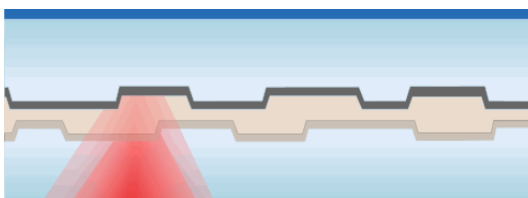

Figure 3 DVD-9 Disc
**DVD-9** discs (see Figure 3) comprise one semi-reflective substrate (layer 0) and one fully metallised substrate (layer 1) above it giving a reduced capacity of 4.25 GB per layer, to ease the manufacturing tolerances for such discs. Labels can be printed as for DVD-5 discs and CDs.